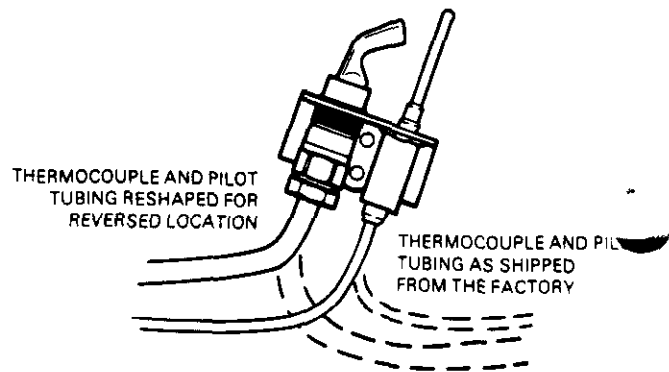

Figure 18 (4-017)
7. Reshape pilot tubing. See Figure 18. On Standing Pilot models, also reshape thermocouple as shown in Figure 18. Be careful when you bend tubing and thermocouple. Do not kink. Install pilot burner on opposite side of burner rack using screws saved during removal.